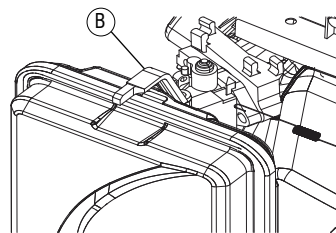

Figure 3-3. Choke Position
5. Slide engine choke (B) to Full Choke position (left). See Figure 3-3.
4. Move engine choke knob outward to Full Choke. See Figure 3-3.